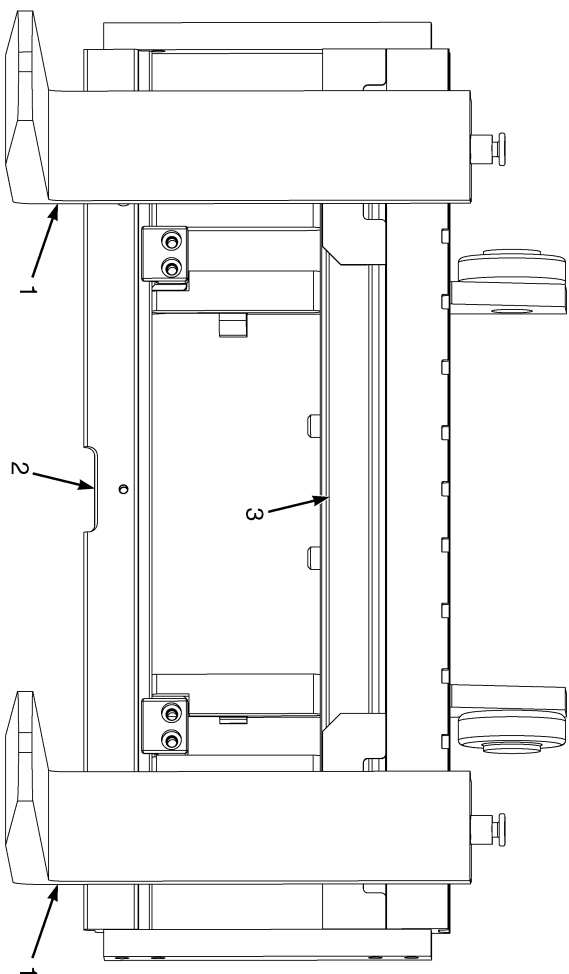

Figure 5. Carriage and Forks
1. Lower carriage and remove four capscrews from inner fork carriers. Remove inner fork carriers from integral side-shift carriage. See **Figure 5**.